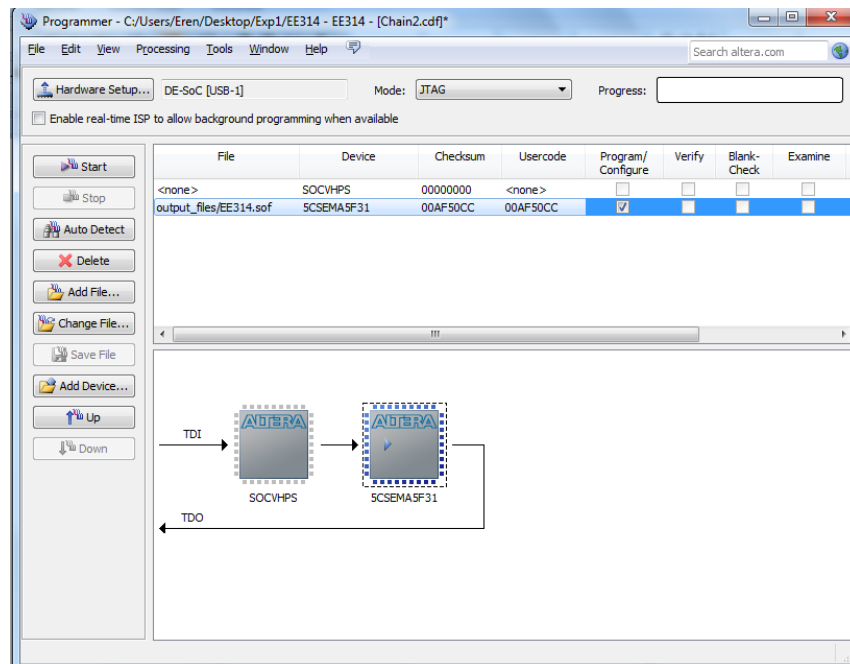

Fig. 18: Programmer window after step 6
- 6) Click on OK. Then click on **Program/Configure**. Programmer window should be similar to Fig. 18.